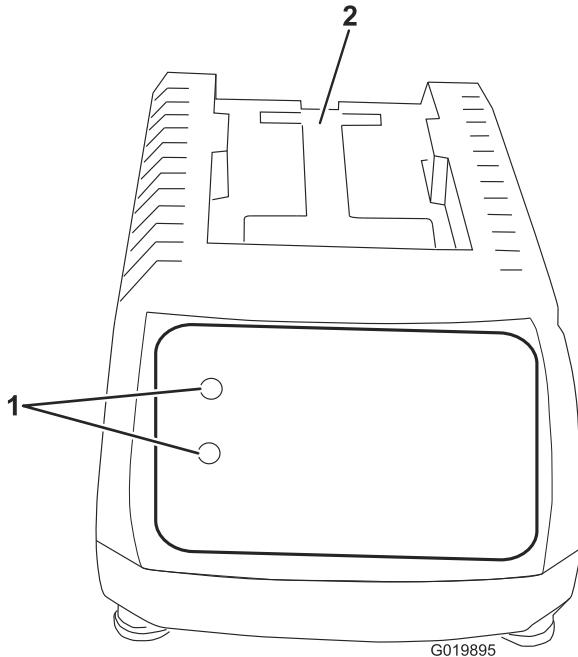
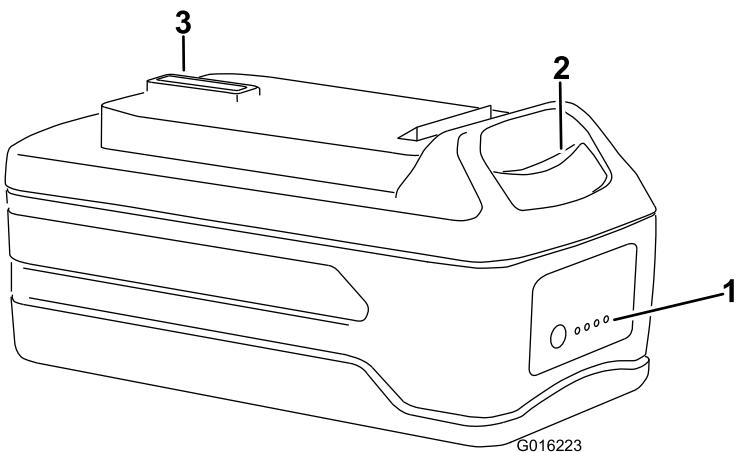

Figure 8
Figure 9
1. Turn the battery upside down and line up the battery terminal with the slot in the charger (Figure 8 and Figure 9).